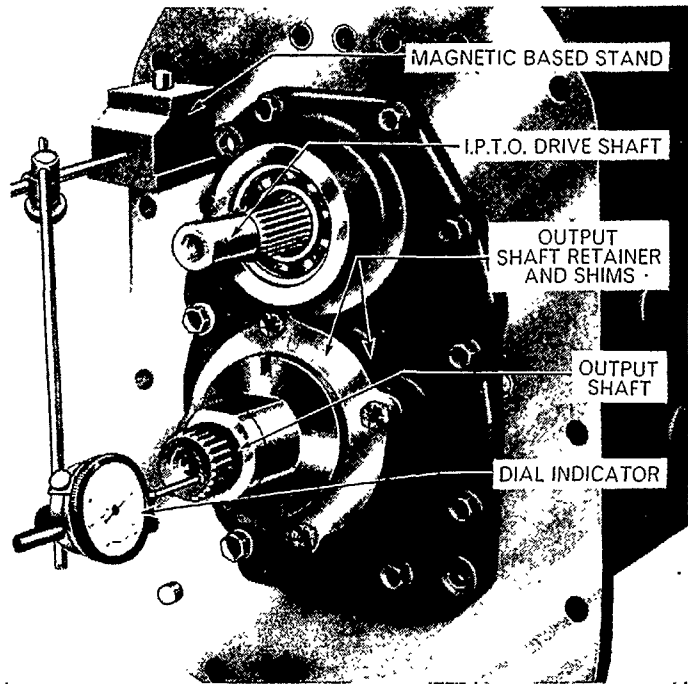

Figure 75
- Using a standard dial indicator, calibrated in 0.001 in. or 0.01 mm divisions, Figure 75, set the indicator plunger against the end face of the output shaft. Move the shaft in and out, noting the end-float reading on the indicator.